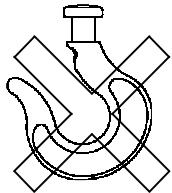

Fig. 4
- Do not remove the safety latch from the hooks (Fig. 4).